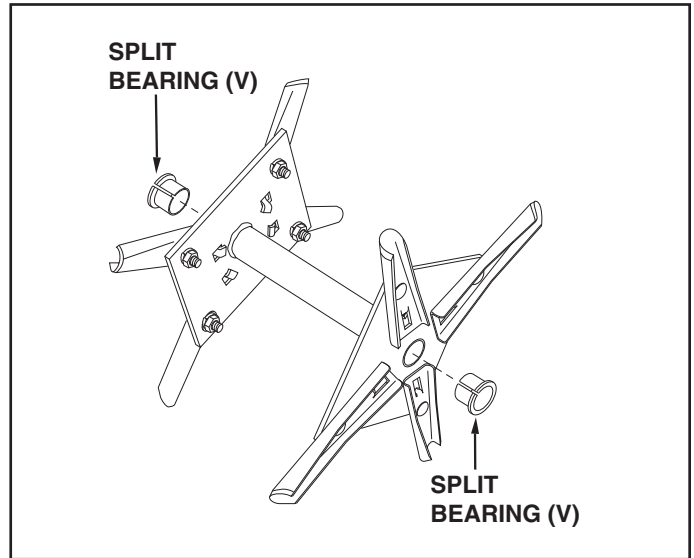

FIGURE 2
3. Push split plastic bearings (V) into both ends of all spool assemblies. See figure 2.